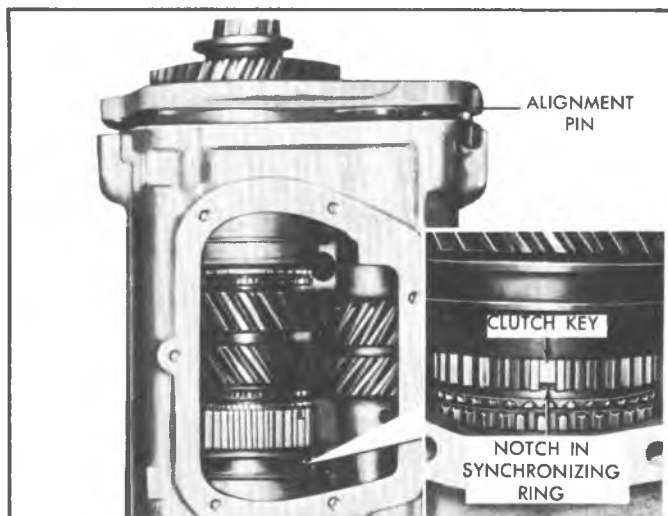

Fig. 18B - Installing Mainshaft Assembly
12. Lower the mainshaft assembly into the case making certain the notches on the fourth speed synchronizing ring correspond to the keys in the clutch assembly (fig. 18B).